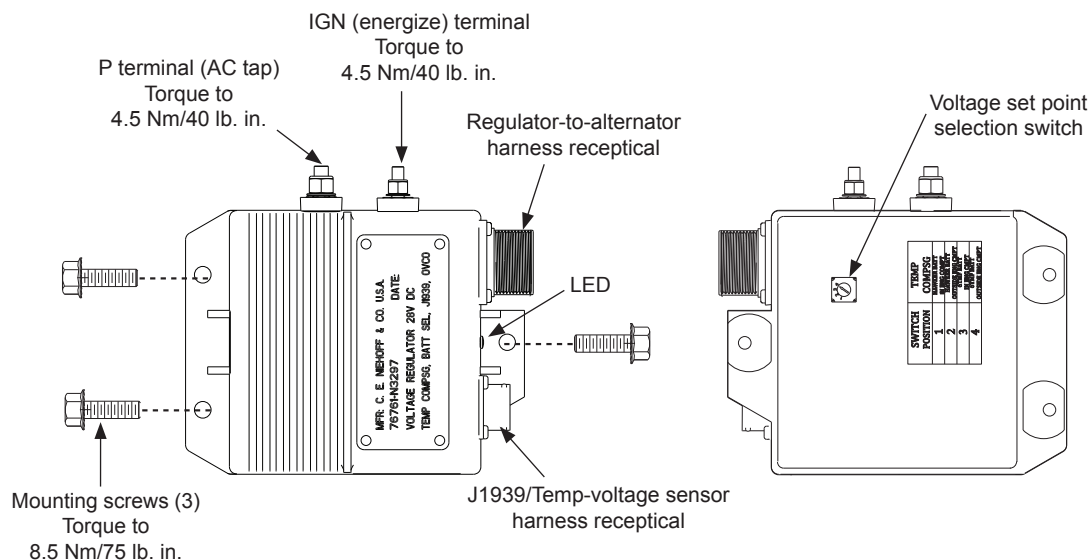

Figure 3: Regulator Connections
- Refer to Figure 3 and connect regulator to charging system as follows:
- Connect alternator-to-regulator harness to matching receptacle on regulator. See Figure 3.